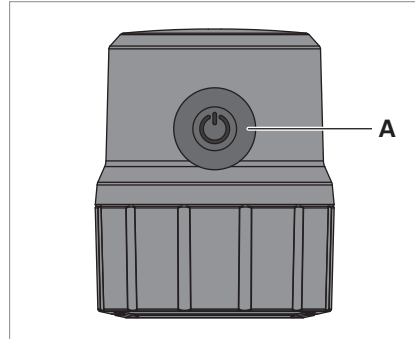

Fig. 6: Key.
- ▶ To switch the luminaire on and off, press the key A on the top side of the luminaire head, see Fig. 6.